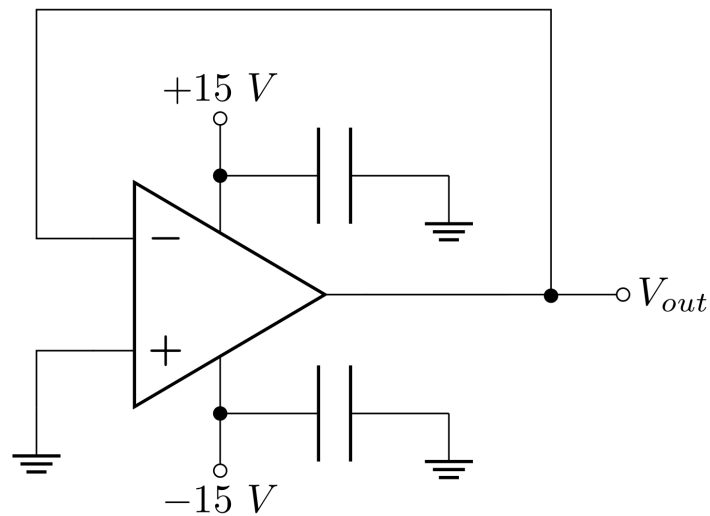

Figure 6: Schematic of a voltage follower with the input grounded
1. You can save yourself some frustration by testing your op-amp chips to make sure they are not burned out. Connect the op-amp as a grounded-input **voltage follower** with the (positive) input grounded (see Figure 6). What is the predicted voltage on pins 2, 3, 4, 6 and 7 using the Golden Rule model? Measure and record the measured voltages on these pins. If your predictions do not match your measurements check your connections to the chip to find the problem. Make sure your predictions match your measurements before going on. It will be helpful to leave the voltage follower built on your board to quickly check an op-amp in future weeks. Move the chip out and build the other circuits elsewhere on your protoboard.